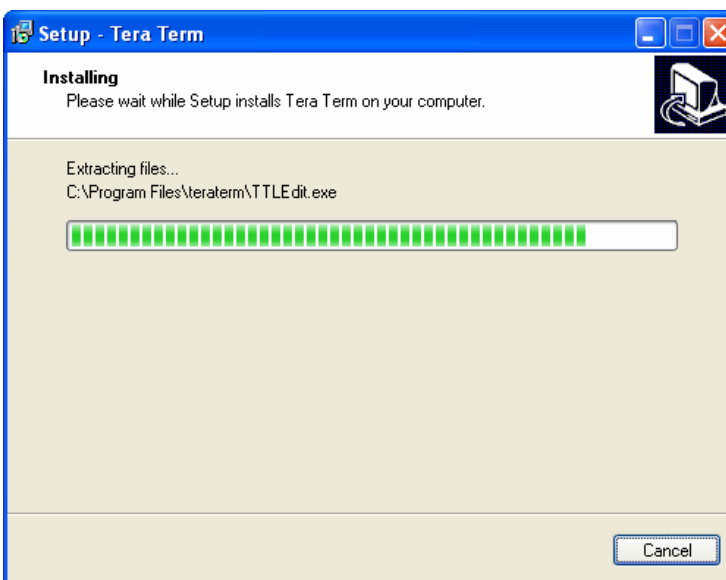

Figure 6-13: Tera Term Installing Screen
15. Tera Term begins installing on your PC (Figure 6-13).